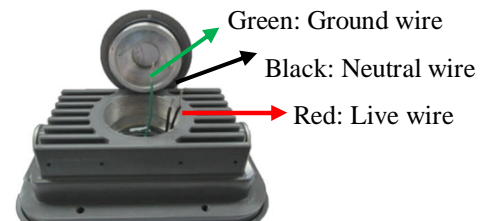

Figure 2
- Introduce the wires of the luminaire with wires of cable by attached closed-end-terminals as following (Figure 2):